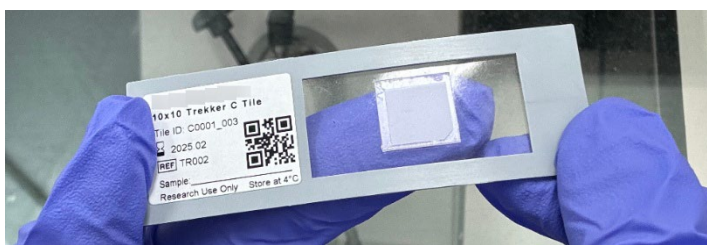

Figure 10. Demonstration of the precise placement method onto the tissue region of interest.
- c. With the tile and tissue section facing up, melt the tissue section onto the tile by moving the tile off the cryostat stage and GENTLY placing a finger on the bottom of the slide glass, as shown in Figure 10 (next page). To avoid curling of the tissue, start from one side and slowly move your finger across the region rather than warming it from the center. A small brush can be used to hold the other end of the tissue flat during the initial melting from one end.